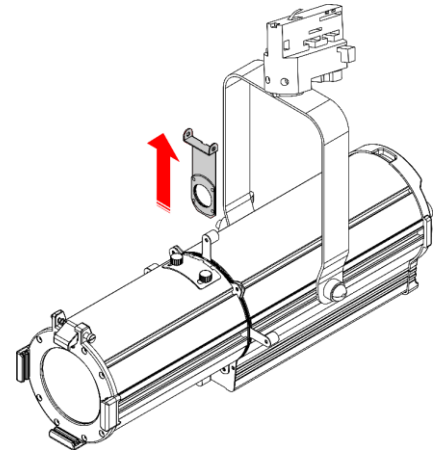

Fig. 23
- 03) Take the **gobo holder (13)** out the of gobo slot (see Fig. 23).